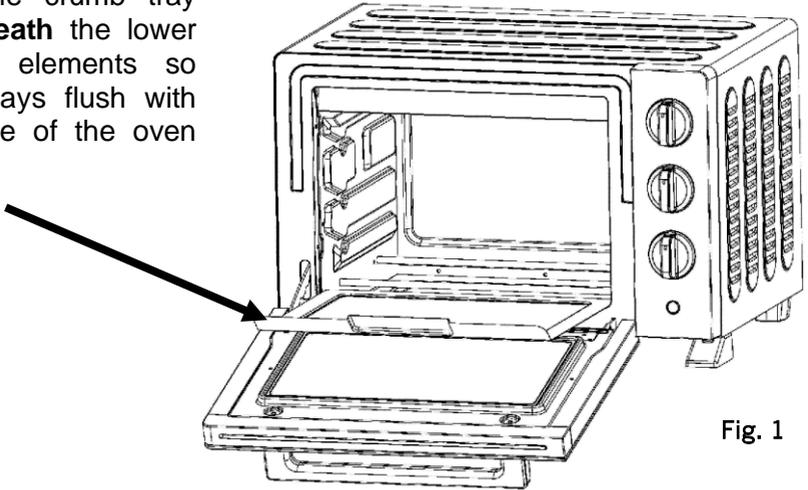

Fig. 1
- Where to fit the crumb tray - see fig. 1
- Slide the crumb tray **underneath** the lower heating elements so that it lays flush with the base of the oven (fig. 1)